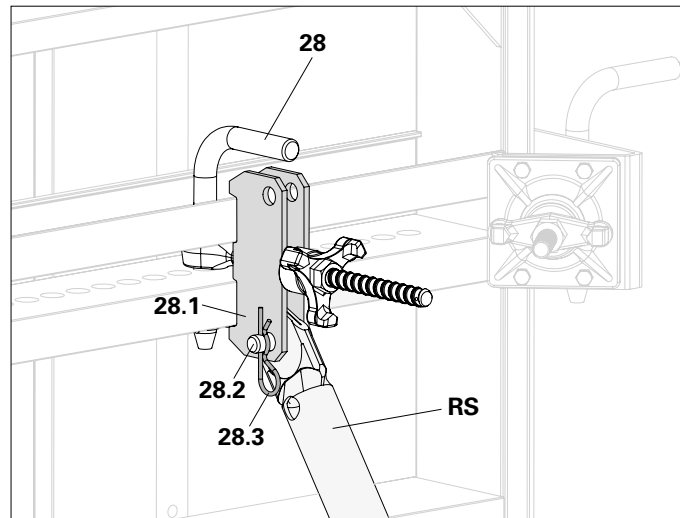

Fig. A7.01
Connect Push-Pull Prop (RS) and connection lugs (28.1) with bolts (28.2) and cotter pins (28.3). (Fig. A7.01)